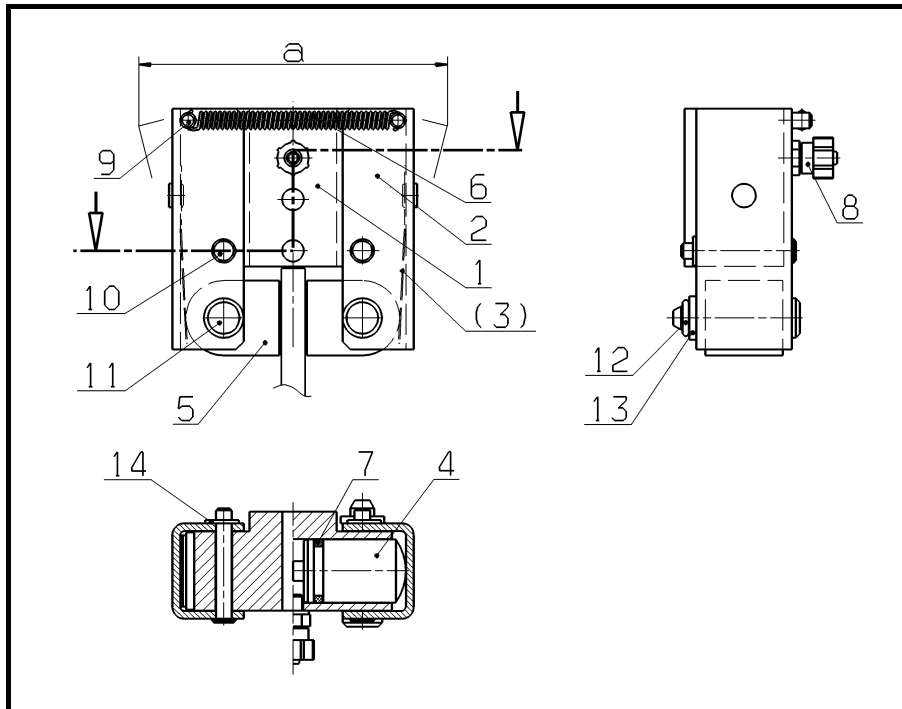

Fig. 2.1
With lining wear on the friction linings, the levers (item 2) are widened further in the closed condition of the brake caliper (compressed air is applied to the brake caliper) see figure 2.1, measurement a.